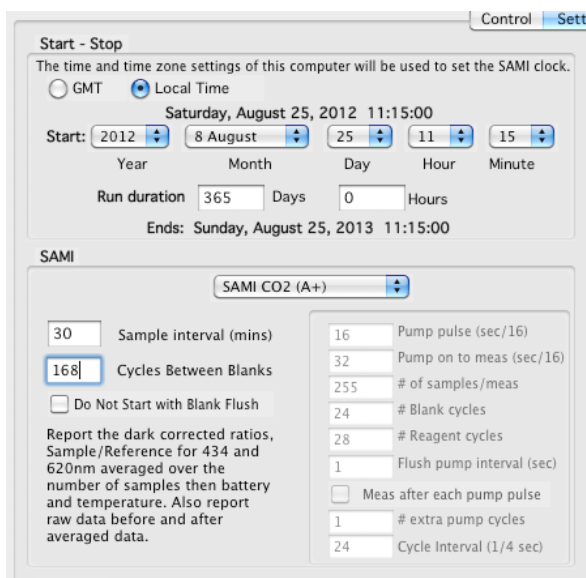

Figure 1. SAMI/AFT CO2 set to start one year in future with expected 30 minute sampling interval. Blank interval is set
1. If you don't want any scheduled sampling and only want externally triggered measurements, you still need to *program* and *launch* the SAMI/AFT using the client software. Without configuration, the instrument doesn't have all the parameters loaded and will not function. The easiest way to do this is to set the start time for 1 year in the future. This loads all the parameters, but doesn't start the instrument. If this is a CO₂ unit and it will still be used on a regular schedule - but with external triggering - the sample interval should be set accordingly. In Figure 1, the sample interval is set to 30 minutes. This automatically schedules the blank interval. The instrument uses a counter to schedule blank measurements. The first measurement will be a blank unless otherwise specified. Periodic blanks are required to maintain accuracy and precision.